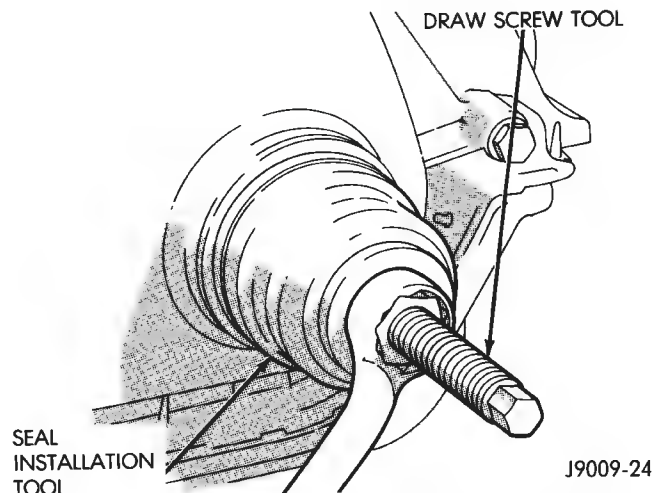

Fig. 4 Timing Case Cover Oil Seal Installation
(1) Disconnect negative cable from battery.
(2) Remove the serpentine drive belt.
(3) Remove the vibration damper.
(4) Remove the radiator shroud.
(5) Carefully remove the oil seal. Make sure seal bore is clean.
(6) Position the replacement oil seal on Timing Case Cover Alignment and Seal Installation Tool 6139 with seal open end facing inward. Apply a light film of Perfect Seal, or equivalent, on the outside diameter of the seal. Lightly coat the crankshaft with engine oil.
(7) Position the tool and seal over the end of the crankshaft and insert a draw screw tool into Seal Installation Tool 6139 (Fig. 4). Tighten the nut against the tool until it contacts the cover.
(8) Remove the tools. Apply a light film of engine oil on the vibration damper hub contact surface of the seal.
(9) Apply Mopar Silicone Rubber Adhesive Sealant to the keyway in the crankshaft and insert the key. With the key inserted in the keyway in the crankshaft, install the vibration damper, washer and bolt. Lubricate and tighten the bolt to 108 N·m (80 ft. lbs.) torque.
(10) Install the serpentine belt and tighten to the specified tension (refer to Group 7, Cooling Systems for the proper specifications and procedures).